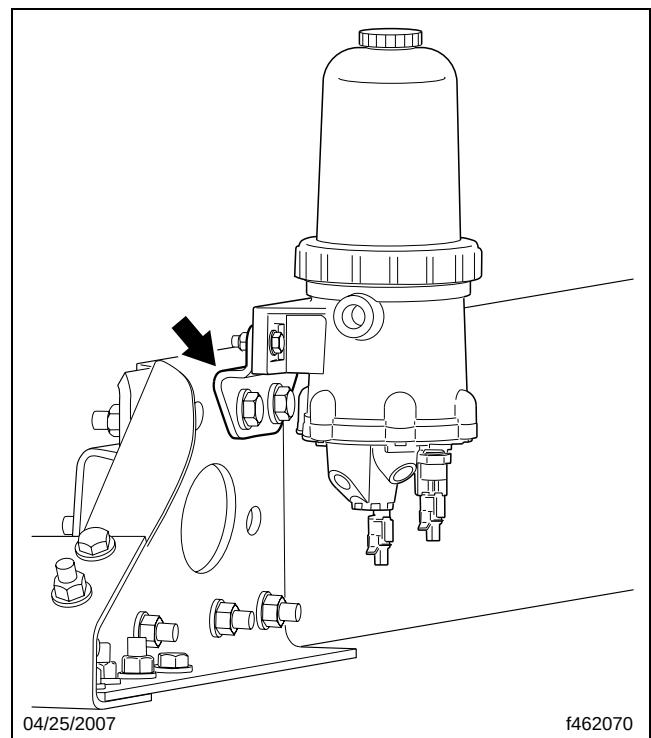

Fig. 6, Fuel/Water Separator Mounting Bracket
30. Install the fuel/water separator in the new location, as shown in **Fig. 6**.